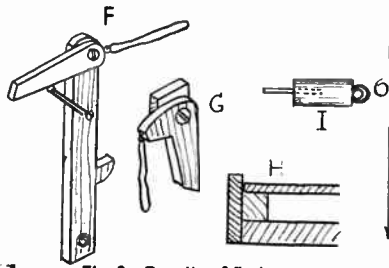

Fig. 2—Details of fittings
To the edges of this, some $\frac{3}{16}$ in. thick strips of wood are fixed to make a finishing rim, as in detail Fig. 2 (H). These are $1\frac{1}{2}$ ins. wide, so will rise above the cover board, referred to later on, just $\frac{1}{8}$ in.
An elastic band is hooked to the pawl and dropped over a screw, driven in the lever, where shown. On the right edge of the lever, near the top, fix a second hook, and to this slip on another elastic band. The whole will then present the appearance seen at (F) in Fig. 2.
Cut the detent (D) from $\frac{3}{16}$ in. wood and fix a small wire hook where shown. This part should be pivoted with a countersunk screw to a small square of $\frac{1}{2}$ in. fretwood, as in detail (G) Fig. 2, the square being glued to the backboard so that the detent falls into the teeth of the disc at about the position shown in Fig. 1. Hook the elastic band, attached to the detent as in the detail, over a screw head, driven in the backboard.
The scoring plug, Fig. 2 (I) is a 1 in. wire nail, driven about $\frac{1}{2}$ in. in a small bit of wood dowelling, then the head being